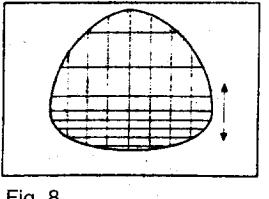

Fig. 8
- d) Adjust the vertical symmetry to obtain symmetrical scanning between upper and lower picture (fig. 8).